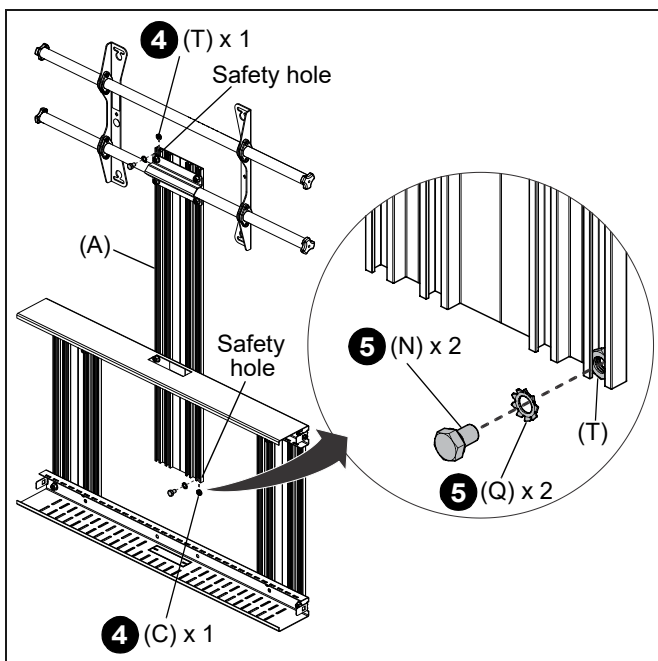

Figure 10
4. Slide two M8 nuts (T) into the outside channels and position them over both safety holes in the upright extrusion (A).
5. Install two M8 x 12mm screws (N) and lock washers (Q) through the M8 nuts (T) and into the safety holes in the upper and lower corners of the upright extrusion (A). (See Figure 10)